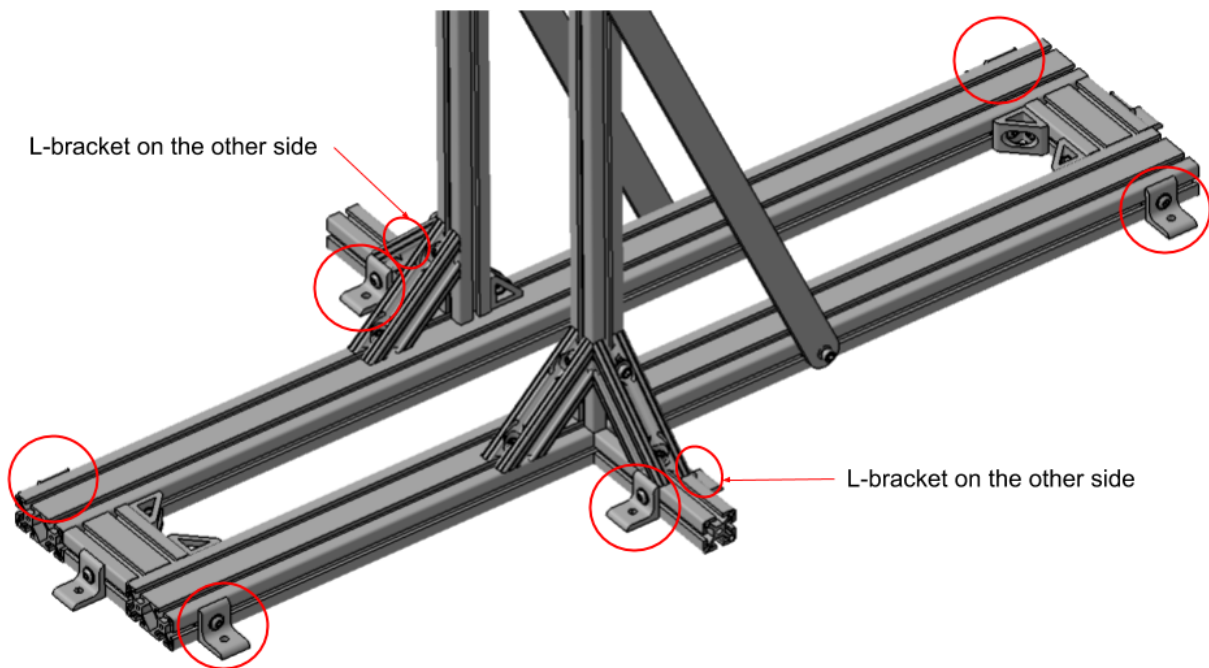

Fig. 4.17: Insert and attach the L-brackets (#KPHT) and rods (#DUSQ) to the support.
- ❑ All eight L-brackets plus the two already installed on the 4" double beam should now be in place. See Fig. 4.17.